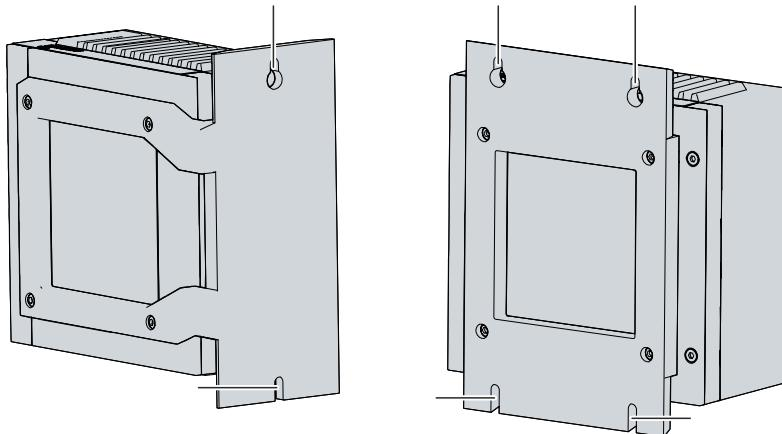

Fig. 17: C6030 \_Position of the fastening screws
2. Lift the PC until the fastening screws slide into the keyholes (see Fig. 17).